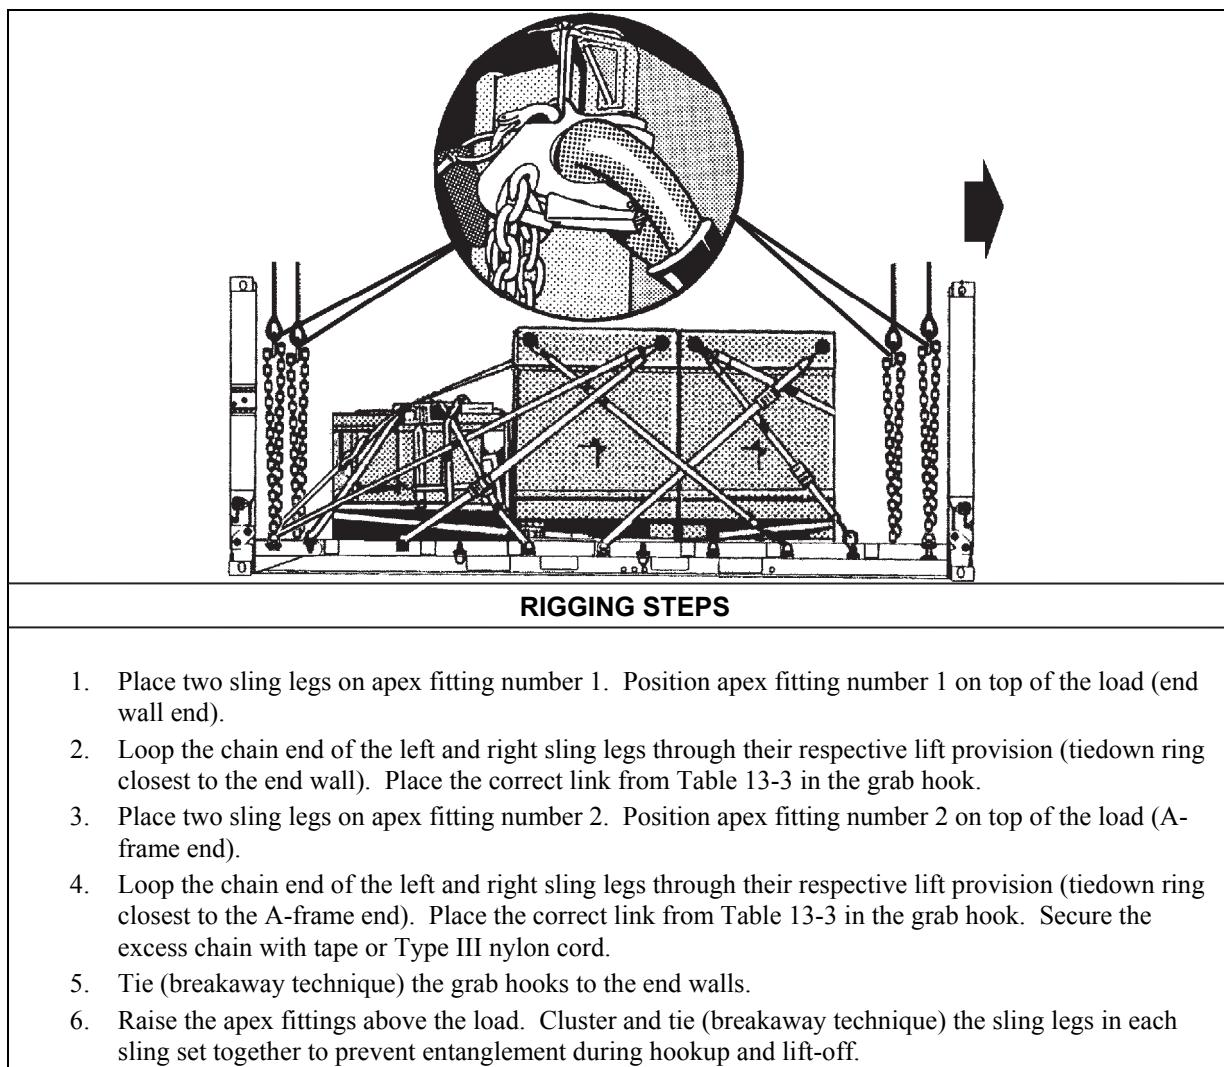

Figure 13-3. Enhanced Palletized Loading System, Flatrack, Loaded
- **Rigging.** Rig the load according to the steps in Figure 13-3.